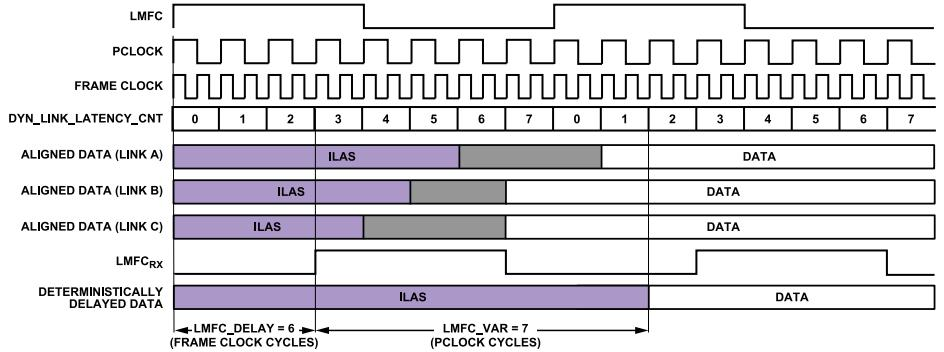

Figure 51. Multilink Synchronization Settings, Derived Method Example
Figure 51 shows how $\text{DYN_LINK_LATENCY}_x$ (Register 0x302 and Register 0x303) provides a readback showing the delay (in PClock cycles) between LMFC_{RX} and the transition from ILAS to the first data sample. By repeatedly power-cycling and taking this measurement, the minimum and maximum delays across power cycles can be determined and used to calculate LMFCVar and LMFCDel .
The example shown in Figure 51 is demonstrated in the following steps according to the procedure outlined in the Without Known Delays section. Note that this example is in Subclass 1 to achieve deterministic latency, which has a PClockFactor (FrameClockRate/PClockRate) of 2 and uses $K = 16$; therefore $\text{PClocksPerMF} = 8$.
1. In Figure 51, for Link A, Link B, and Link C, the system containing the AD9144 (including the transmitter) is power cycled and configured 20 times. The AD9144 is configured as described in the Device Setup Guide. Because the point of this exercise is to determine LMFCDel and LMFCVar , the LMFCDel is programmed to 0 and the $\text{DYN_LINK_LATENCY}_x$ is read from Register 0x302 and Register 0x303 for Link 0 and Link 1, respectively. The variation in the link latency over the 20 runs is shown in Figure 51 in grey.